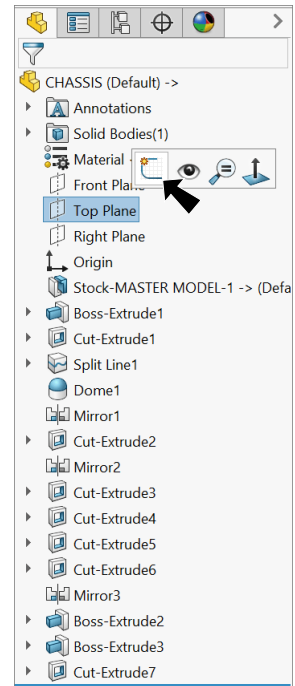

Fig. 88
Step 2. Click **Top Plane** in the Feature Manager and click **Sketch** on the context toolbar, **Fig. 88**.